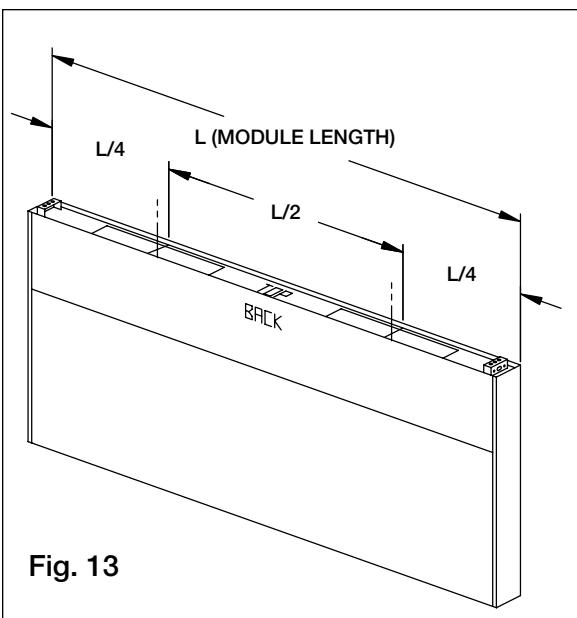

Fig. 13
3. If the back supply plenum is greater than 9 ft. 10 in. (299.72 cm) long, divide the length of the back supply by four. This will give you the center of each half. Cut openings at the suggested location, centering the duct collar over the center measurement of each half. (Fig. 13)